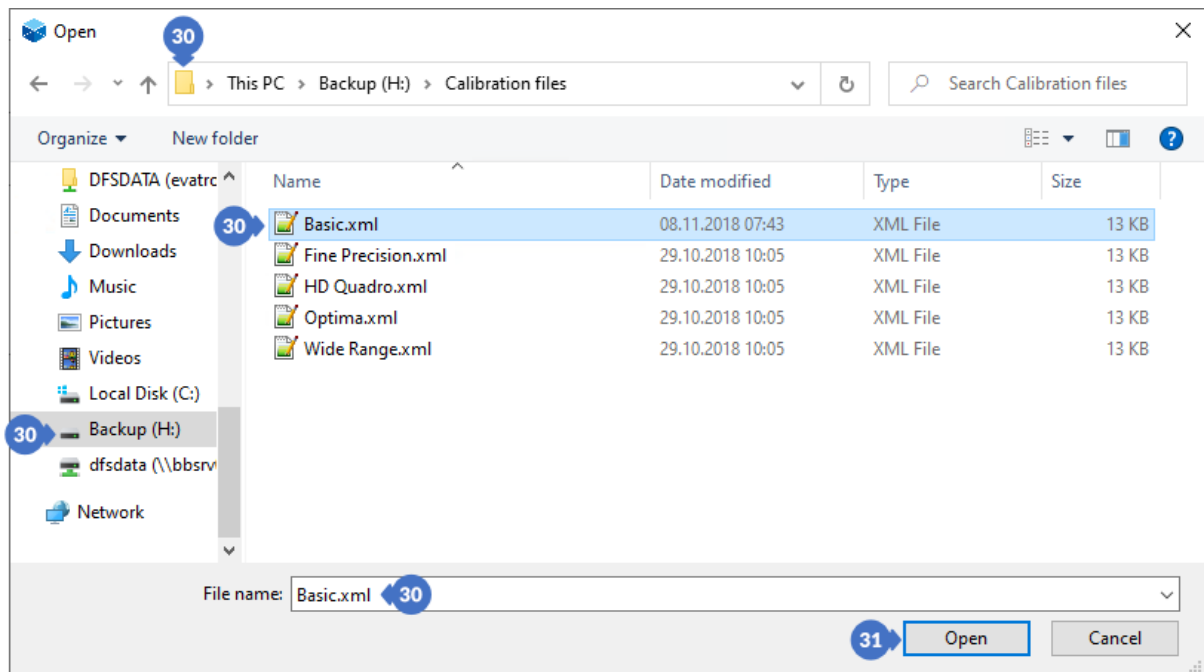

Figure 110. Import file with the calibration path
After clicking on the *IMPORT* (29) button, a window will appear that allows you to indicate the location of the file with the extension *.xml* to be imported (30). After selecting the file, click on *Open* (31) to import (Figure 110).